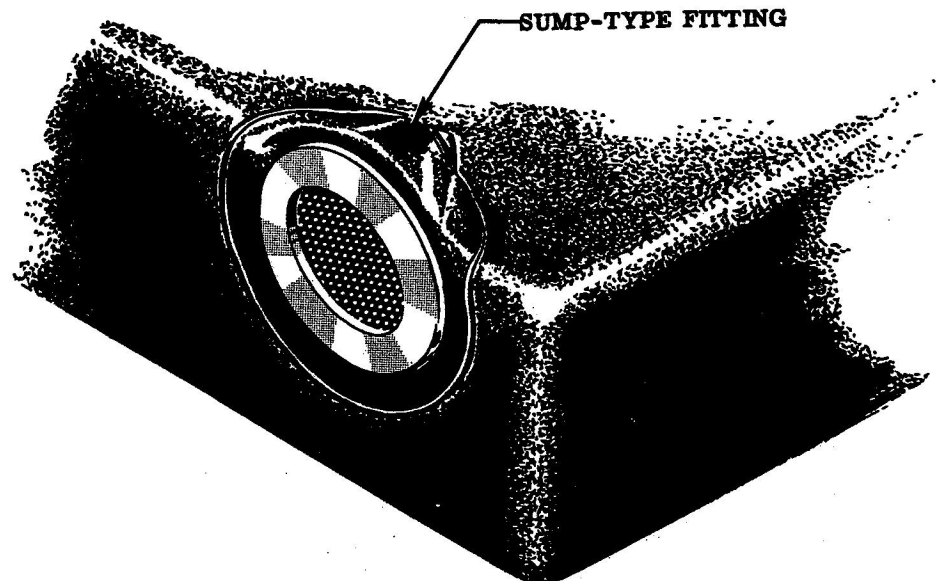

Figure 9
(2) Loose liner at throat of sump type and 3-plane fittings.	1/4-inch maximum looseness (see figures 9 and 10)
(3) Loose liner lap.	1/4-inch looseness maximum width in edge of liner lap and full length of lap provided 1-inch bond is maintained, except*Firestone 1052-6 construction on which 1/16-inch edge looseness will be acceptable.
(4) Edge looseness on liner reinforcements and chafing patches.	1/2-inch maximum looseness provided looseness does not exceed 25 percent of total area; blisters or separations other than in the edge area allowable up to 25 percent of the total area.